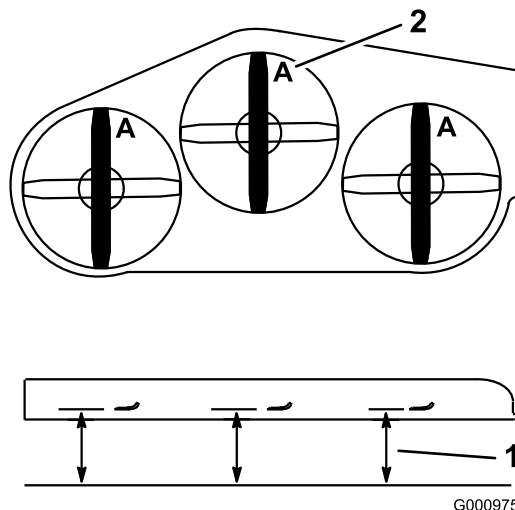

Figure 86
4. Measure from a level surface to the cutting edge, position A, of the blades (Figure 86).